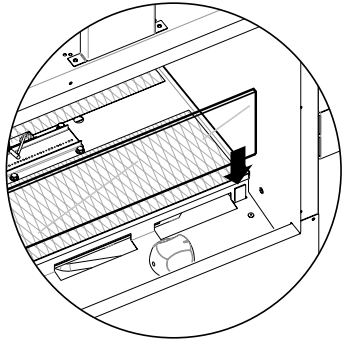

Figure 24
2. Install the glass wind panel (two used on see-through fireplaces). See **Figure 24**.